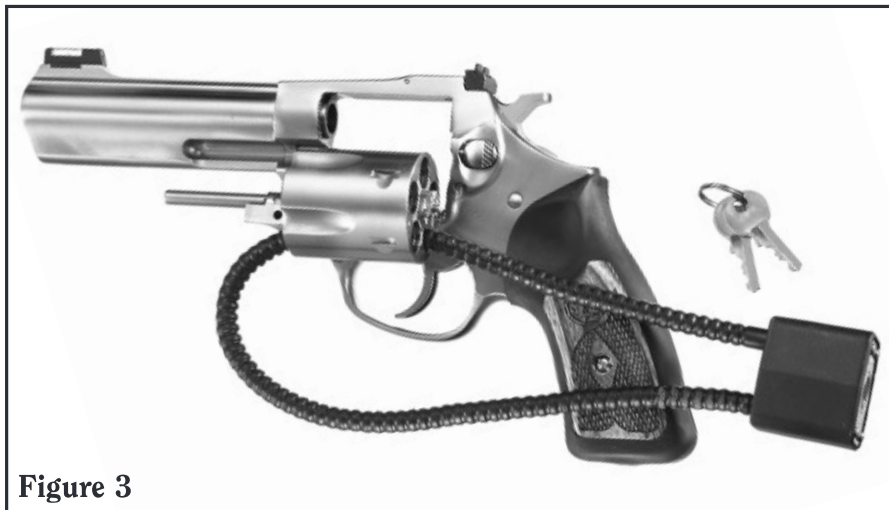

Figure 3
3. For large caliber SP101® revolvers, insert the cable through the cylinder as shown in Figure 3.